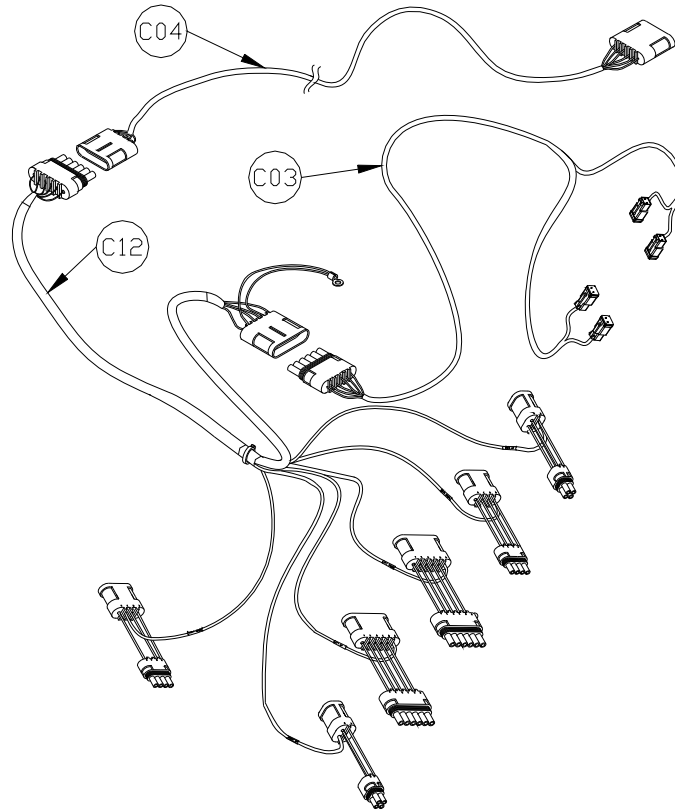

Figure 33: Cable Configurations: C12, C03 and C04
9. **C12** has a screw terminal. It must be connected to the frame of the sprayer (**Figure 33**). Scrape any paint off the frame where the terminal is mounted. A good location is the bolt holding the JD wiring harness next to the large connector at the rear of the sprayer frame.